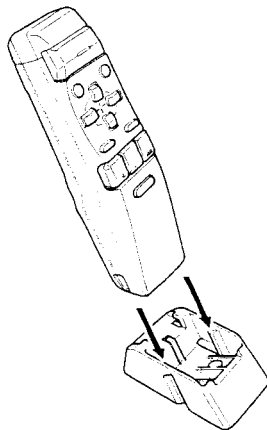

Fig. 13
■ Fitting vertically (Fig. 13)